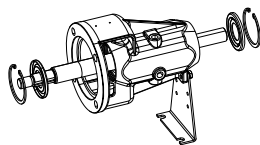

Fig. 23: Bearing bracket
- See fig. 23: Bearing bracket